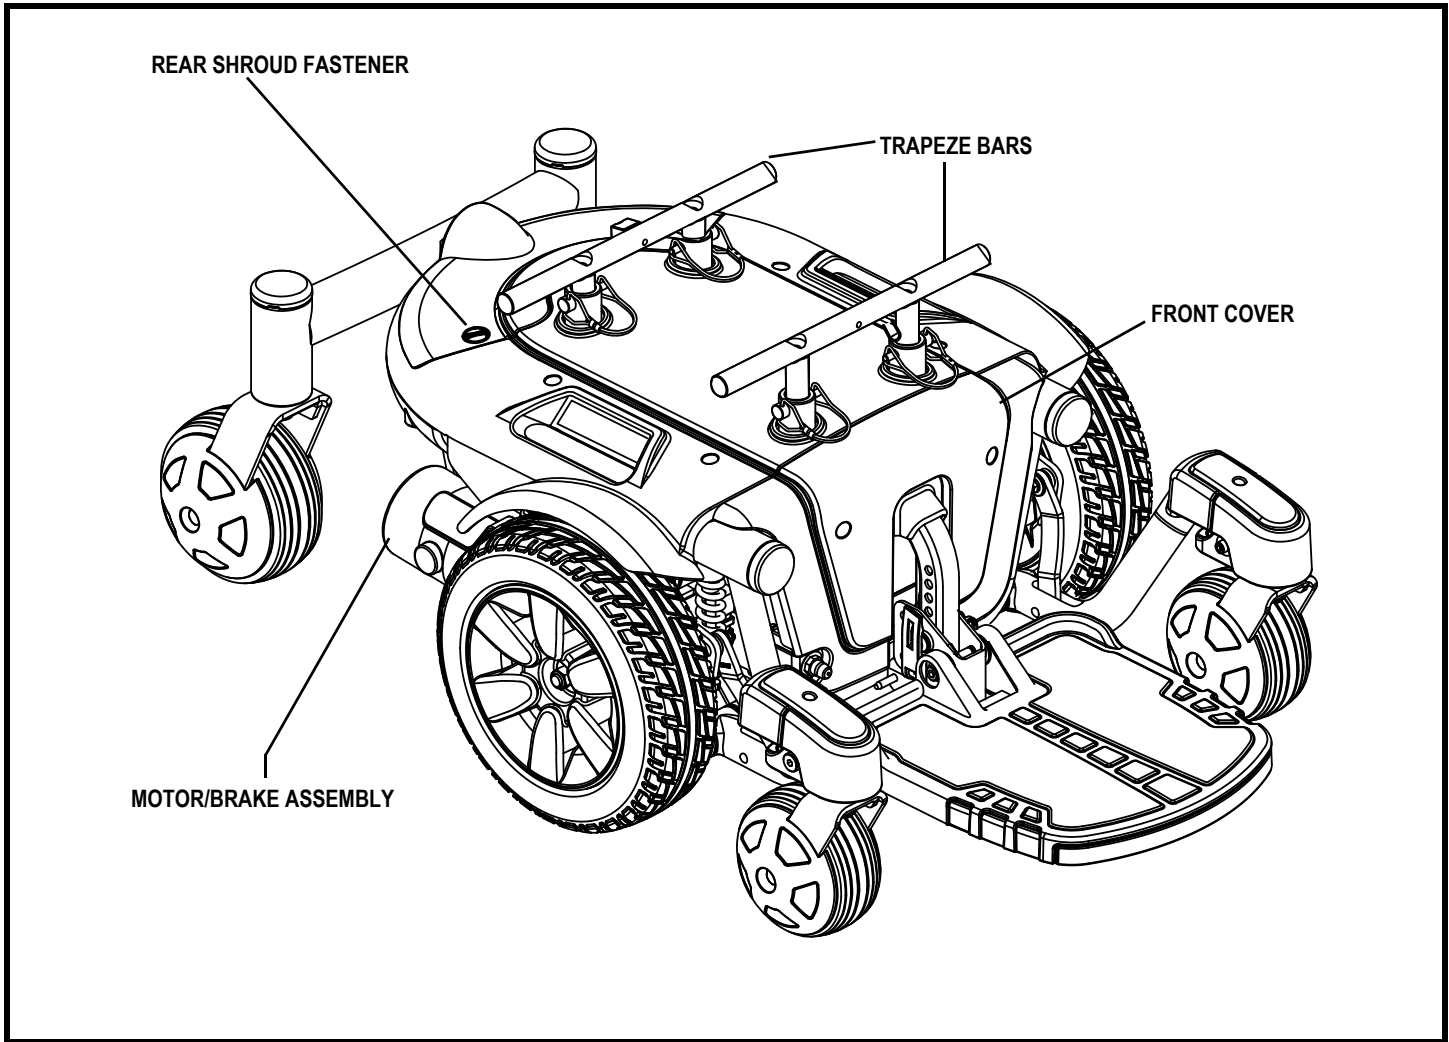

Figure 6. The J6 Power Base
5. Loosen the rear shroud fasteners and remove the rear shroud. See figure 6.
7. Reinstall the rear shroud and tighten the rear shroud fasteners. See figure 6.
3. Loosen the rear shroud fasteners and remove the rear shroud. **See figure 6.**